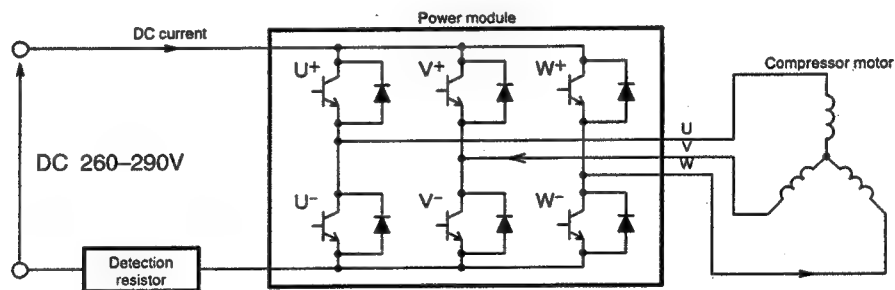

Fig. 8-9
- (1) Turns on the power module's U⁺ and V⁻ transistors so the current flows to the motor windings as shown in Fig. 8-9.